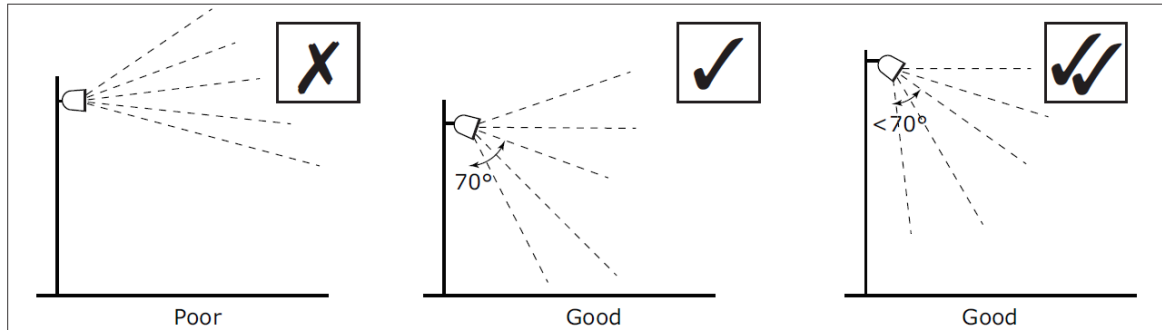

Figure 1: Luminaire Aiming Angles - [1]
6. Glare has been kept to a minimum by ensuring that the main beam angle of all the luminaires directed towards any potential observer is not more than 70 degrees as indicated in Figure 1.